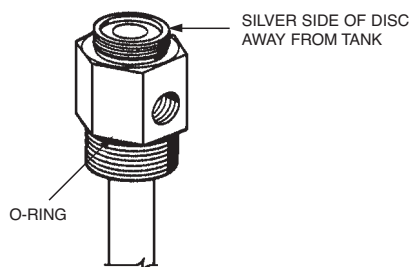

FIGURE 3
- ▶ 12. Examine threads on each tank adaptor and tank collar for nicks, burrs, or cross-threading. Clean and coat O-ring with a good grade of extreme temperature grease. See Figure 3. Remove 1/4 in. vent plug and clean and inspect for free movement and corrosion (replace if necessary). Reinstall vent plug. Make certain bursting disc is in place and silver side is away from tank. Clean seating surface and return adaptor/tube assembly to each tank. Tighten securely.